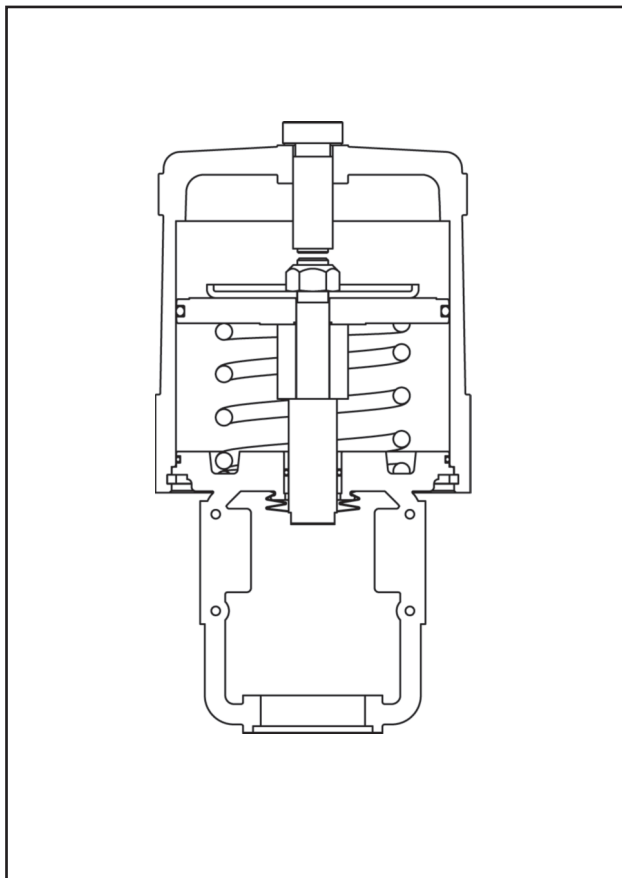

Figure 6 - Air-to-Close Configuration
- ▷ In the "air-to-close" configuration (Fig. 6), slowly release and remove the actuator stem locknut, making sure that the piston follows the locknut and is not jammed on the actuator stem. Remove the stem locknut, spring button, piston, spring and stem spacer.
To reassemble the actuator refer to the Figures 6 and 7:
- ▷ If the bushings need to be removed, lubricate the external side of the replacement bushings. Press the new lower stem bushing into the yoke hole until it touches the bottom shoulder. Press the upper stem bushing until it is aligned with the top of the yoke (refer to the Figures 6 or 7).
- ▷ Reassemble the piston, the piston stem O-ring and the stem spacer in the actuator stem, according to the desired air action (refer to Figures 6 and 7). Replace the piston O-ring. The air-to-close configuration requires that the spring button be fixed by the actuator stem locknut. Tighten the nut firmly.
To revert the air-to-close action to air-to-open, refer to Figures 6 and 7: